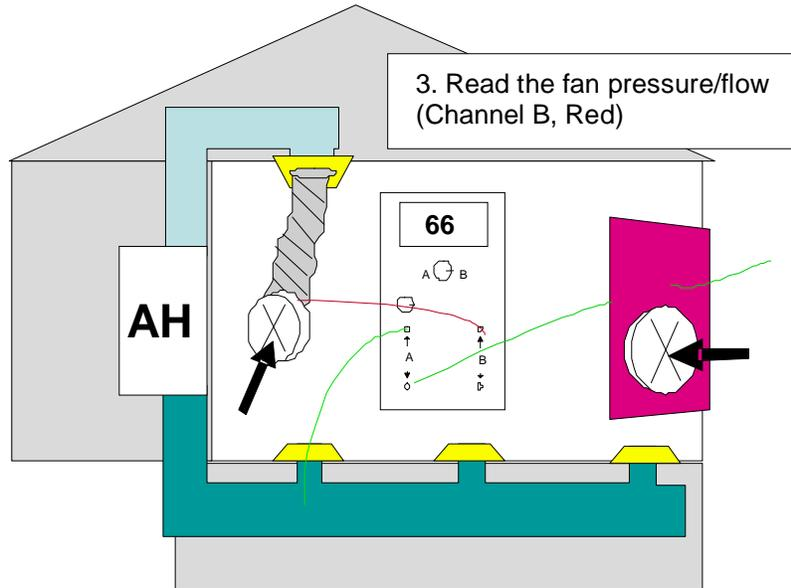

Figure 5: Determining duct leakage
4. Determine the duct leakage (with simple manometers, the fan pressure (Pa) is converted to CFM25 using a flow table. Many digital manometers sold with duct testing equipment can automatically perform this conversion, and display CFM25 directly.) Consult your duct testing equipment manual (Figure 5).